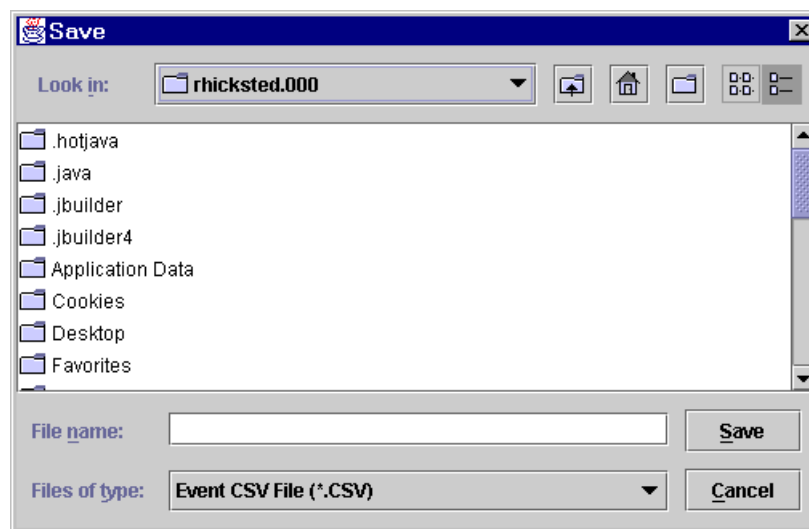

Figure 8-3. Export Event Log—File Name and Location
2. You are prompted to select a location and a file name (see figure 8-3). After selecting a location from the **Look in** list, type a file name in the **File** box, then click **Save**.